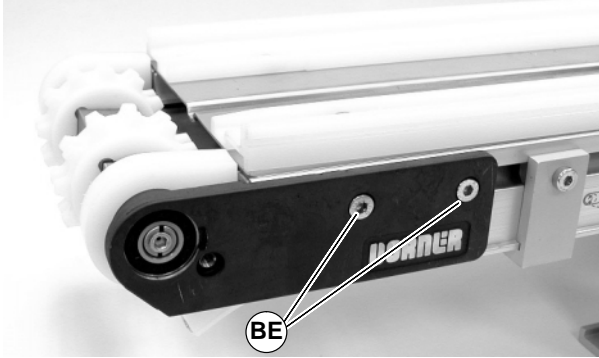

Figure 55
- Install pulley assembly on conveyor. On both sides of conveyor, tighten screws (BE of Figure 55) to 60 in-lb (7 N-m).